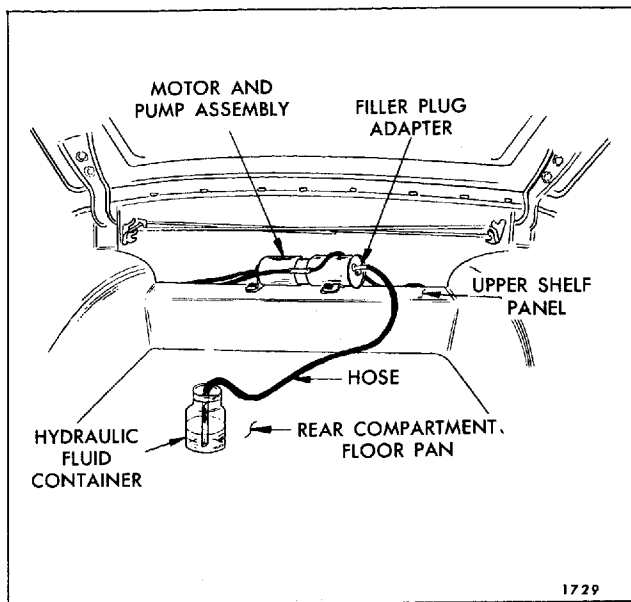

Fig. 6-72—Filling Reservoir
- e. Install opposite end of hose into a container of GM Hydraulic Brake Fluid Super #11 or equivalent. (Fig. 6-72 shows typical set-up.)